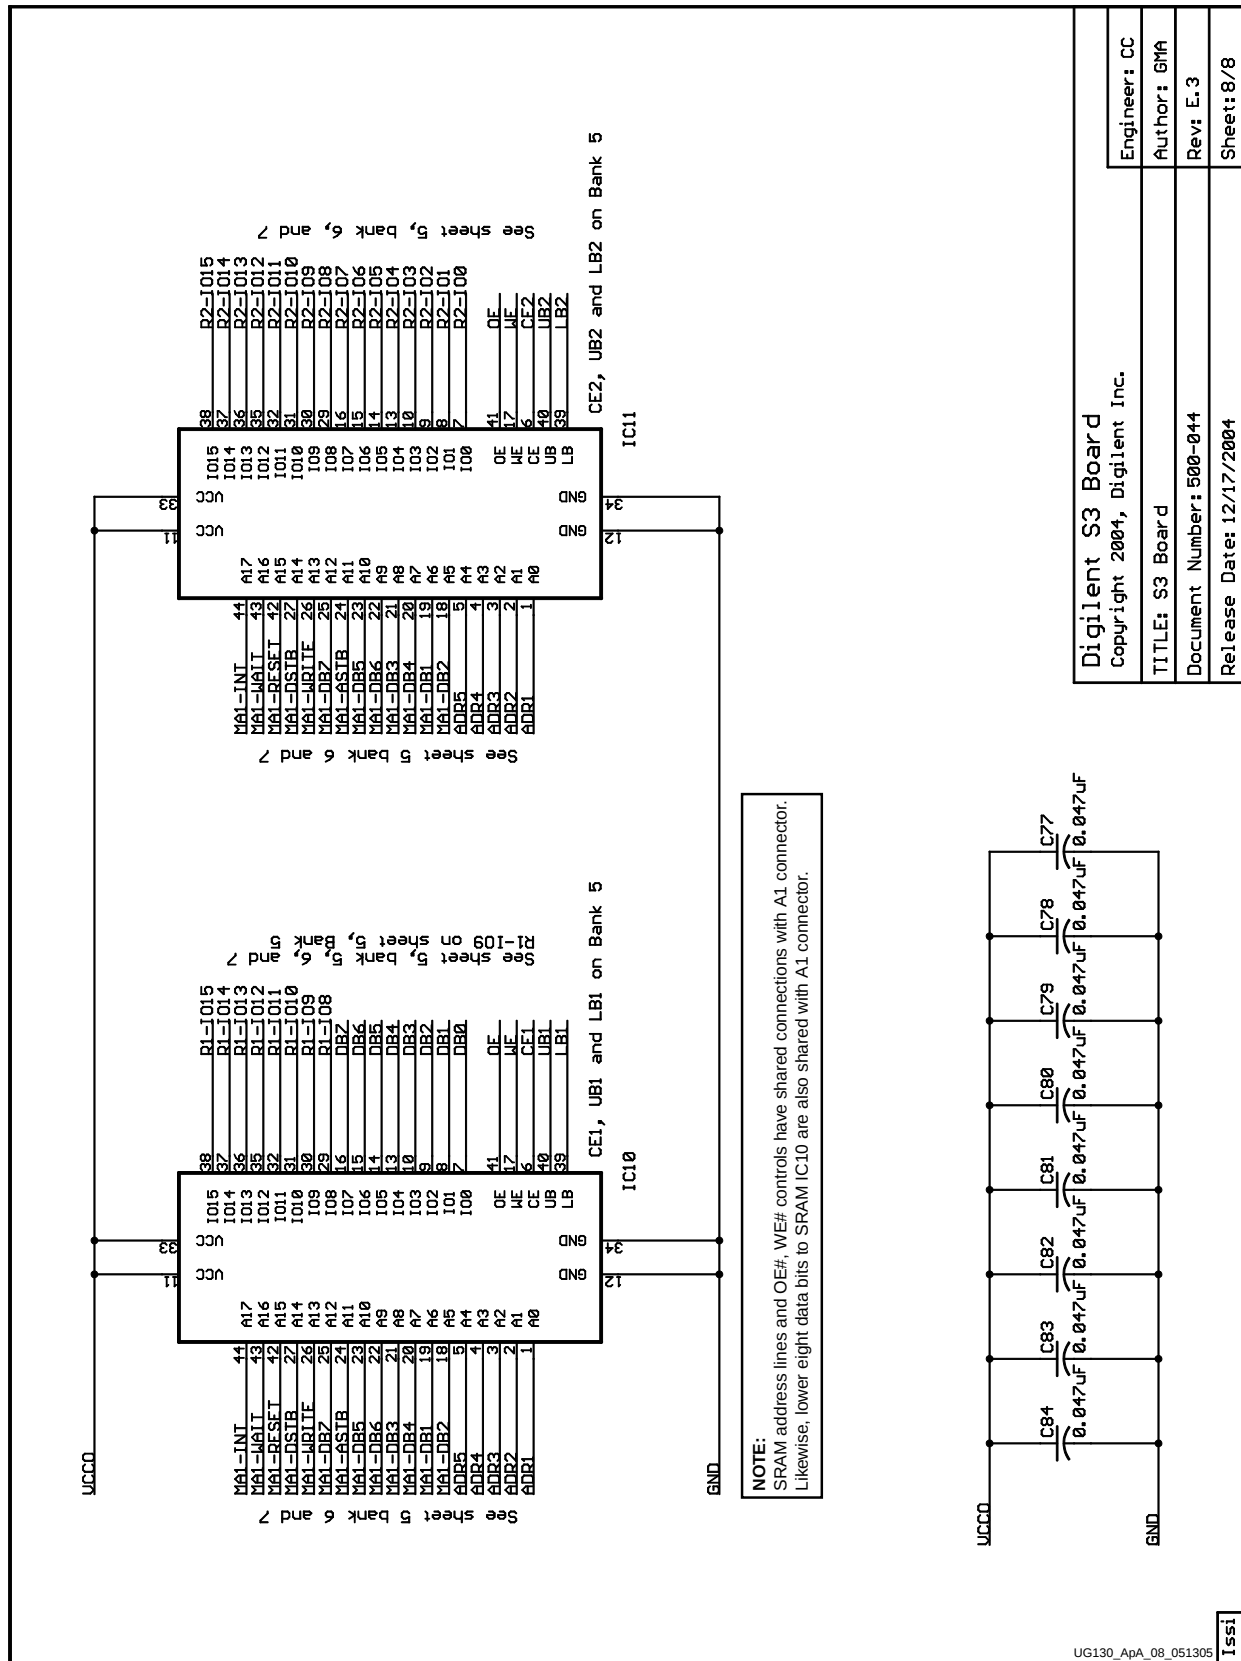

Figure A-8: 2x256Kx16 Fast Asynchronous SRAM Interface
- Figure A-8, “2x256Kx16 Fast Asynchronous SRAM Interface”